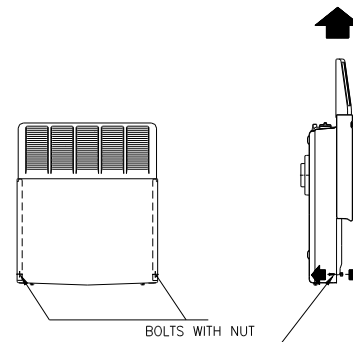

Figure 18
1. Separate the front panel of the appliance by removing the two nuts in the bottom and sliding it up as shown in figure 18.